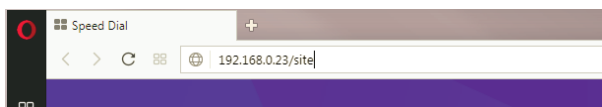

Figure 5-3: Open Browser at 192.168.0.23
2. Open a web browser and enter **192.168.0.23/site** in the address field, Figure 5-3.